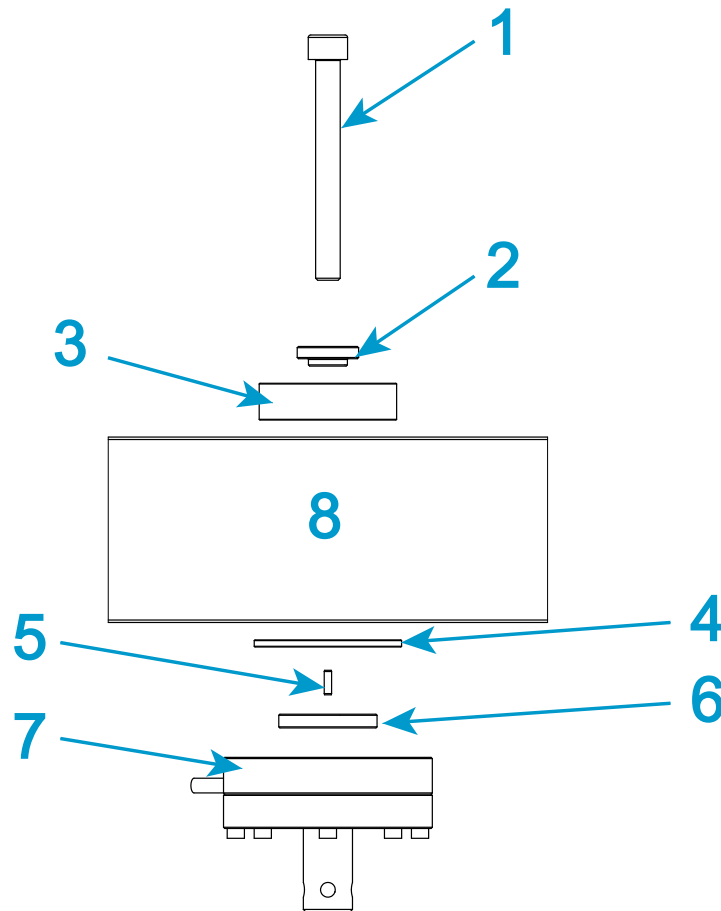

Figure 21. Install a 2530 series load cell - capacities 5 N through 100 N
Legend for Figure 21
1. Refer to Figure 21 and its associated table and collect together the correct mounting hardware.
2. Assemble the hardware shown above the crosshead in Figure 21 and place it into the top of the central bore of the crosshead.